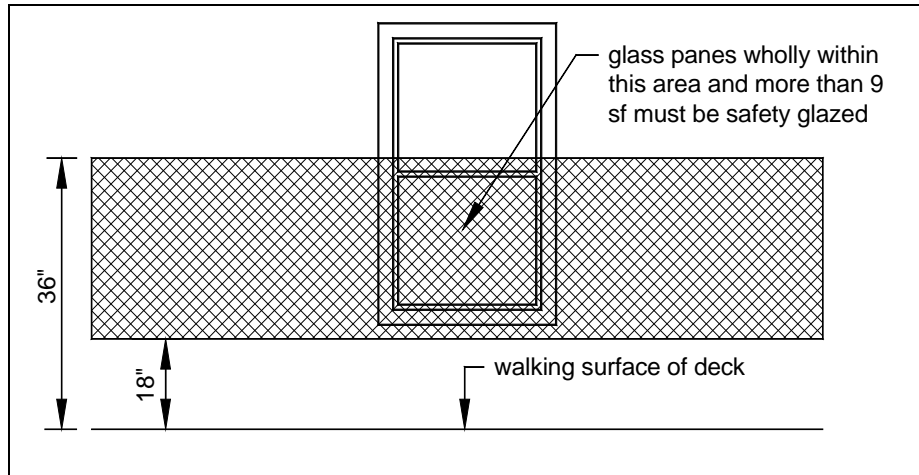

FIGURE 42: SAFETY GLAZING AREA AT WALKING SURFACE
- Adjacent surface of deck: individual panes wholly located in the area identified in FIGURE 42 with a total pane area greater than 9 sf.